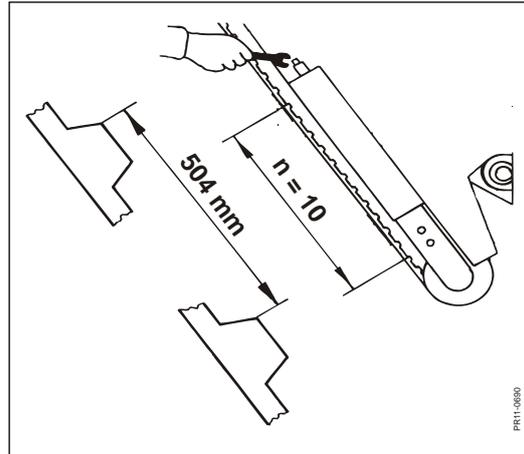

Fig. 9.12
**Fig. 9.12** Removing the lock pin and then turning the tension screws counter clockwise can tighten the elevator's synchronous belts. Tighten the belts until the distance measured over 10 teeth is about 504 mm. and then a test is made if the belts are running correctly.